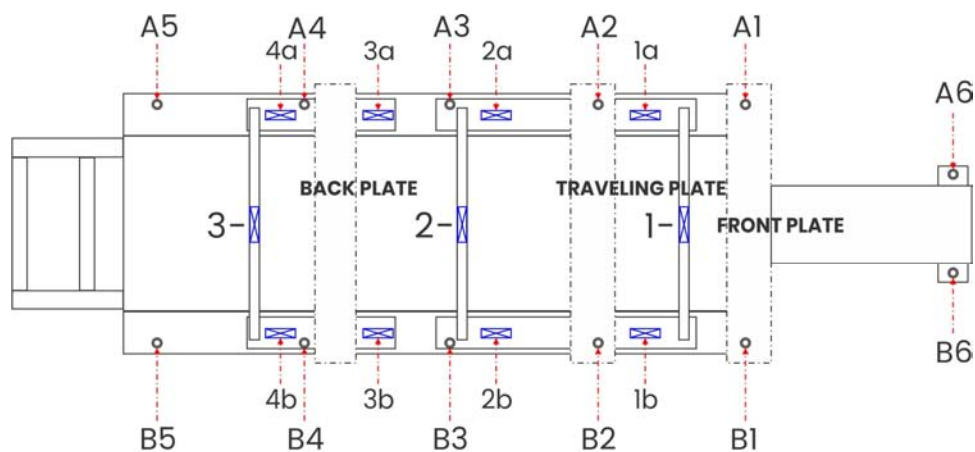

Figure 2
7. Figure 2 shows a Plan View of the machine base. The level locations are indicated by 1a, 2a, 1b, 2b, etc. Machine support locations are indicated by A1, B1, A2, B2, etc. Side-to-side leveling locations are 1, 2, and 3.
13. Use a sheet of paper, or the worksheet provided in the Addendum, record the machine's overall level condition at all positions shown in Figure 2.